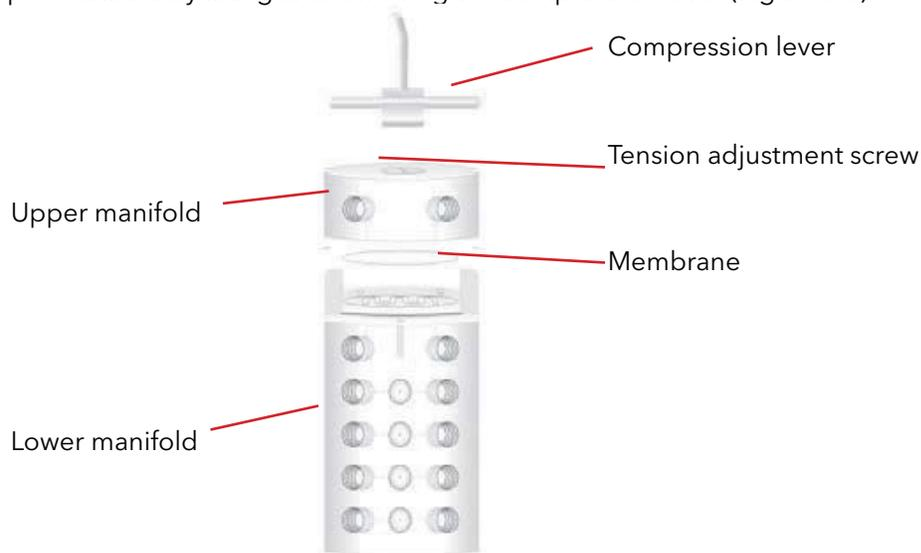

Figure 7.5. Installing the Dialysis Membrane
1. Release the upper manifold by lifting and removing the compression lever (Figure 7.5).